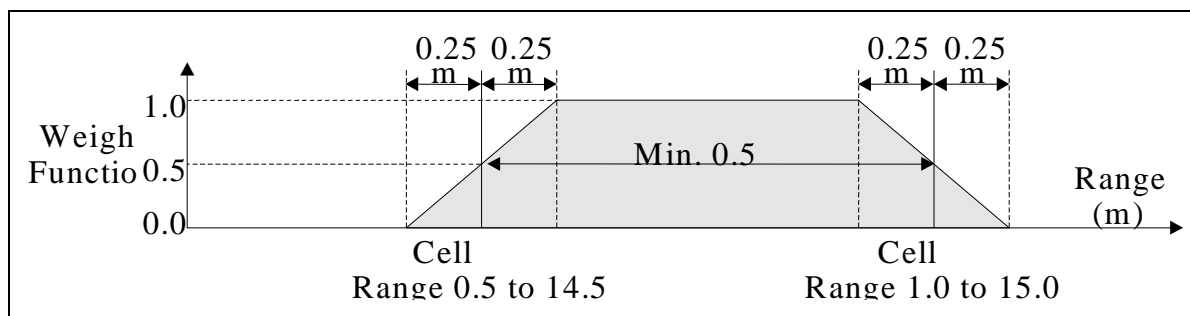

Figure 4 – Argonaut XR and SL Measurement Volume Weighting Function
The precise vertical weighting within the measurement volume is determined by the convolution of the acoustic pulse with the receive window during which the return signal is sampled. For the XR, the acoustic pulse is 0.5-m long. The receive window is based on the settings of Cell Begin (CB) and Cell End (CE). The length of the receive window is equal to the measurement volume height (the difference between CB and CE). Figure 4 shows the weighting function and location of the XR measurement volume relative to the user-specified values of CB and CE.
acoustic pulse is 0.5-m long. The receive window is based up the settings of CB and CE. The length of the receive window is equal to the measurement volume length (the difference between CB and CE). The measurement volume weighting function of the SL is the same as for the XR (shown in Figure 4).